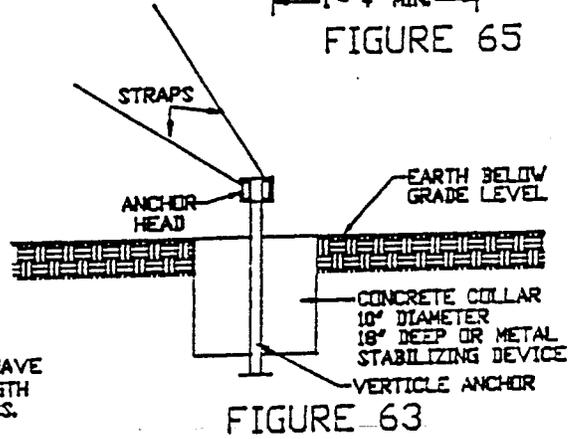

FIGURE 63
or metal stabilizing device driven in front of the anchors director of pull. The collar must be 10 inches in diameter and 18 inches deep. See Figure 63. As an alternate to the concrete collar, a stabilizing device may be installed on the anchor. See Figure 64.
3. IF ANCHOR IS INSERTED VERTICLE A CONCRETE COLLAR OR STABILIZING DEVICE MUST BE USED AT THE GROUND LINE. SEE FIG. 63 & 64.
4. EACH OF THE STRAPS AND CONNECTIONS TO THE I-BEAM MUST HAVE AN ULTIMATE STRENGTH OF 4725 LBS. SEE FIG. 63 & 64.